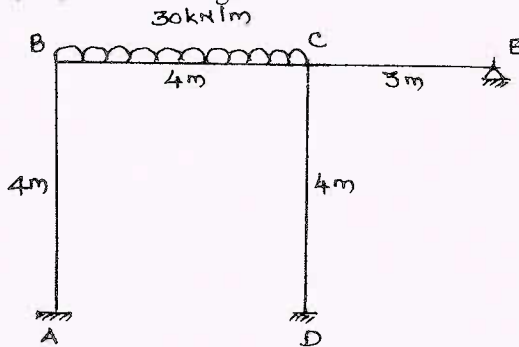

Fig.Q9
- 9 Analyse the frame shown in Fig.Q9 by stiffness matrix method and draw BMD, SFD and Elastic curve. Assume EI is constant throughout.